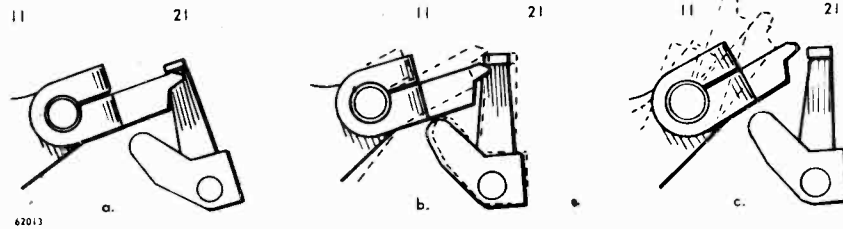

FIGURE 14:
B. MANUAL LOCKOUT ASSEMBLY (20) engages and retains the tone arm locator (12) in its outermost position while the control slide is set in the "MANUAL" position. There are three actions involved:—
1. When the tone arm is in the rest position, and the control slide is moved into MANUAL, the outer manual lockout (20) moves to hold the tone arm locator from moving inward.
2. The manual lockout (20) and the tone arm locator (12) must remain engaged, while the control slide is moved into any other position, until automatically released by the Drive Gear Cam.
C. 12" RESET SLIDE (13), 12" RESET LEVER (39), AND 12" RESET ROD (40) indexes the tone arm properly for a 10" or 12" record, depending upon the setting of the selector arm. This is accomplished by transmitting the motion (due to the reset rod contacting the smooth surface or the rib) on the selector arm to the 12" Reset Lever. (See Fig. 14